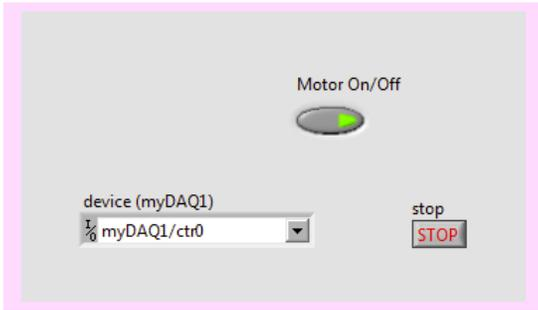

Figure 1: DC Motor Demo Front Panel
**Step 2:** Open the DC Motor demo folder and the DC Motor project (DC Motor demo.vi). Open Motor Demo.vi. On the front panel there is a Boolean control for the motor's state, On or Off (Figure 1).